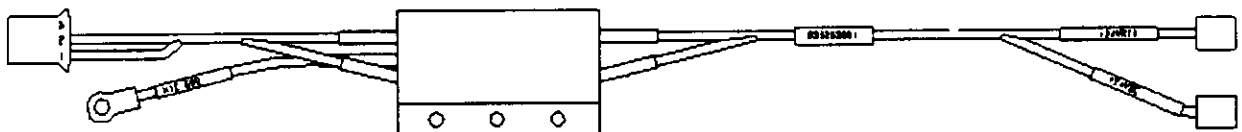

Figure 2-10. HIC Power Cable 8332632G1
- f. Connect the green ground wire of HIC Power Cable 8332632G1 (Figure 2-10) to HIC by sliding ring terminal onto the HIC PE ground stud. Slide ring terminal of additional ground cable 8331052G1 onto HIC PE ground stud. Secure with washers and wing nut.